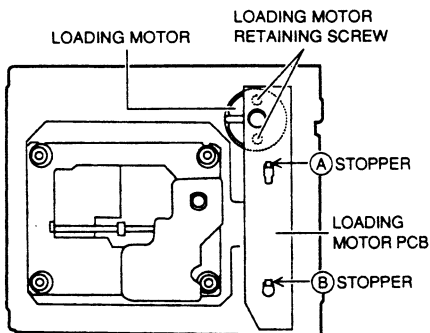

Fig. 3-6
- 2) Release the Ⓐ and Ⓑ stoppers as shown in Fig. 3-6. Then remove the LOADING MOTOR PCB.